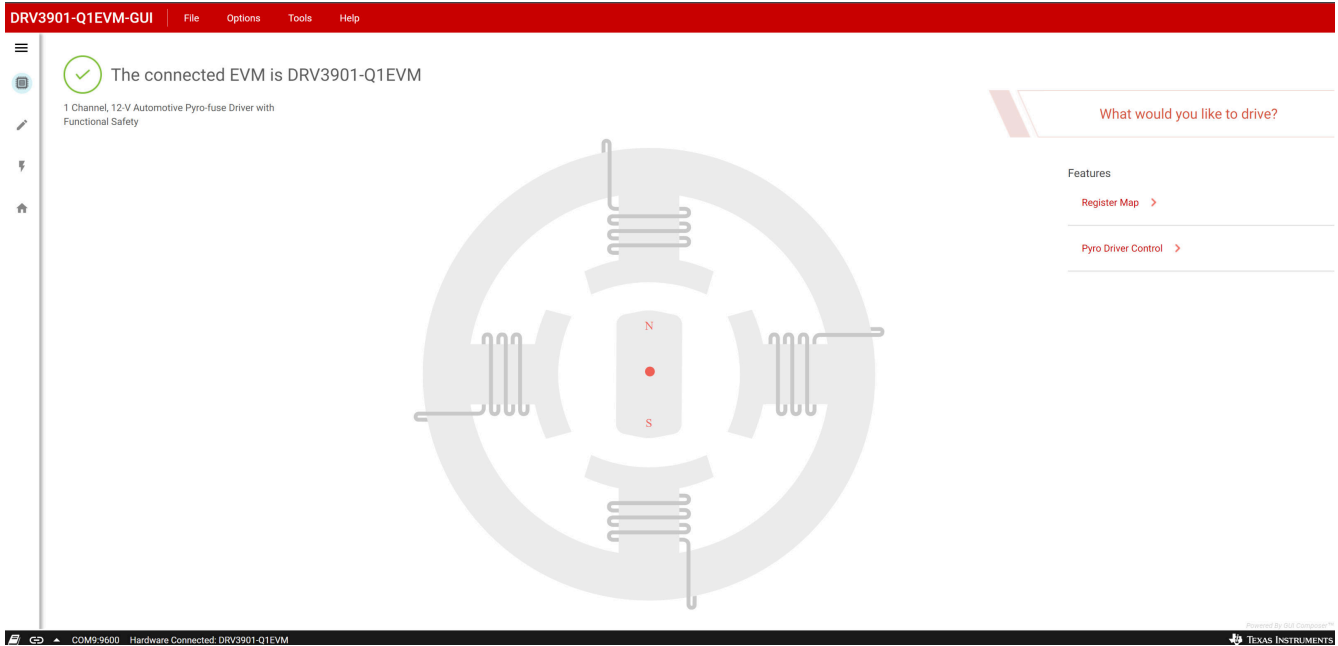

Figure 4-2. GUI Connected Page
3. After clicking the icon, the GUI application will initiate communications with the EVM. Connection confirmation will be displayed as shown below in Figure 4-2. The EVM should now be connected. The